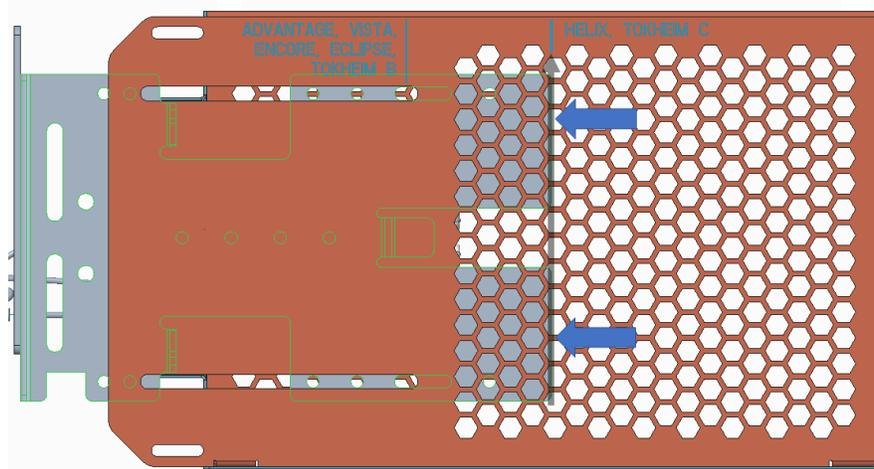

Figure 120
- 5) Slide the wire guard (497-0522796) around the NCR heater assembly so that the edge of the bracket aligns with the Helix, Tokheim C alignment mark as shown in Figure 120